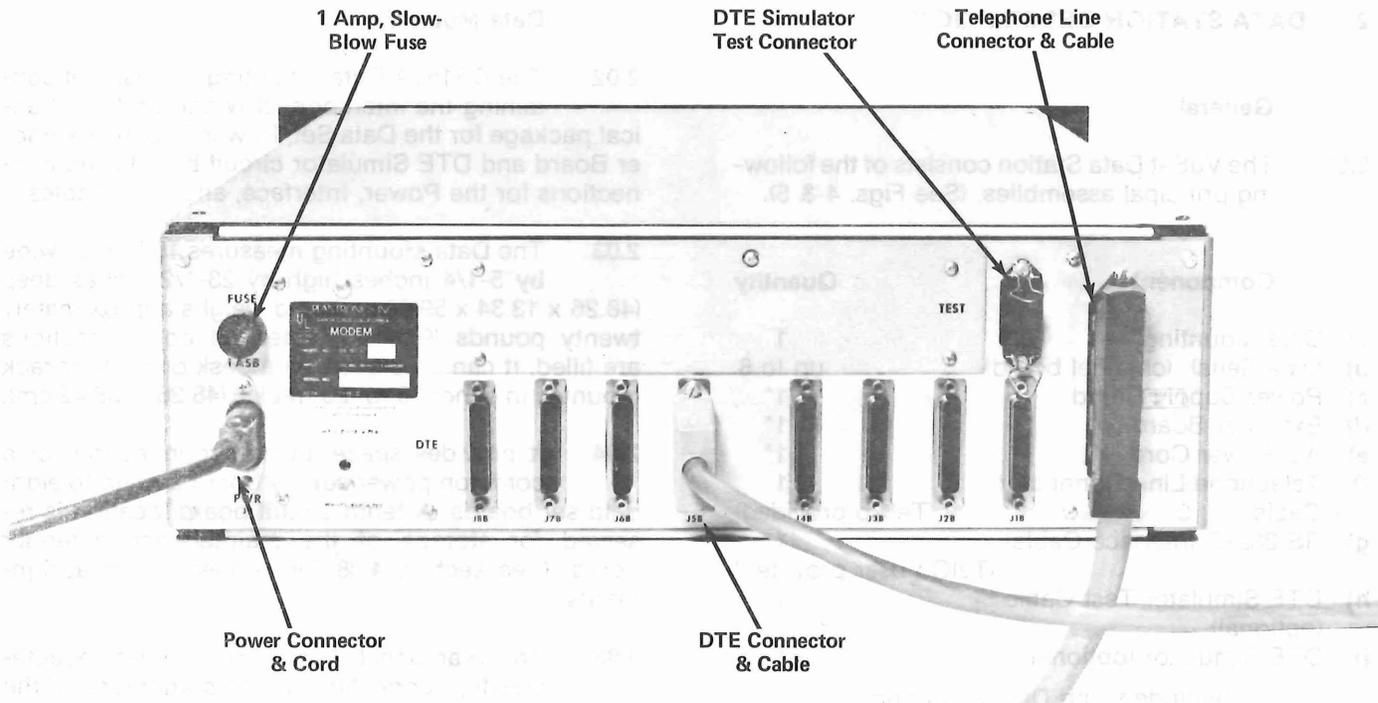

Figure 5, Data Station Rear Panel
2.05 The rear panel (Figure 5) provides receptacles for connections to the computer and the